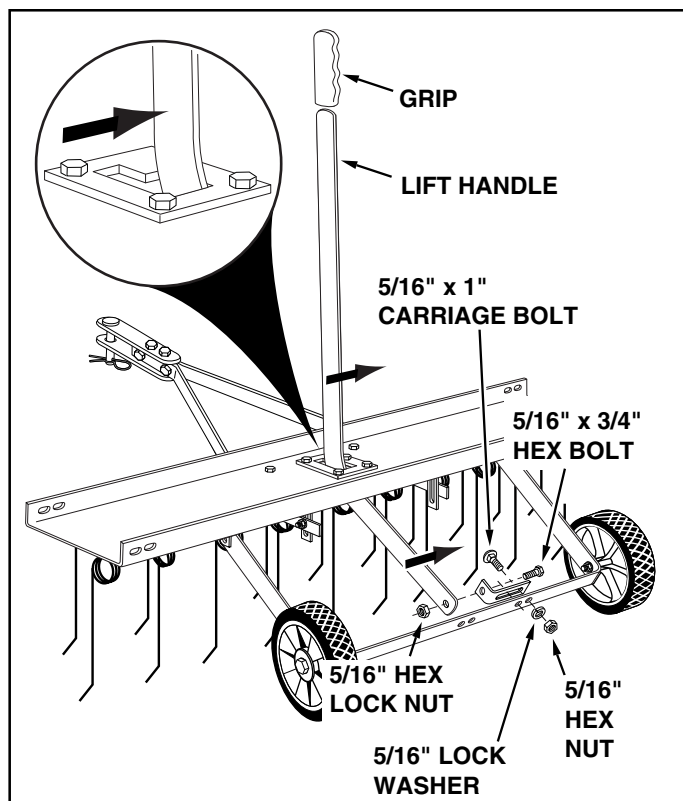

FIGURE 9
15. Assemble a hitch arm mount bracket to the axle bracket using two 5/16" x 1" carriage bolts, 5/16" lock washers and 5/16" hex nuts. **Do not tighten yet**. See figure 9.
16. Insert the lift handle down through the tine shield. Attach it to the just assembled hitch arm mount bracket using a 5/16" x 3/4" hex bolt and a 5/16" hex lock nut. **Tighten**. See figure 9.
17. Position the hitch arm mount bracket so that there is side tension on the lift handle when it is locked in the up position. **Tighten** the nuts. See figure 9.
18. Assemble the grip onto the end of the lift handle. See figure 9.